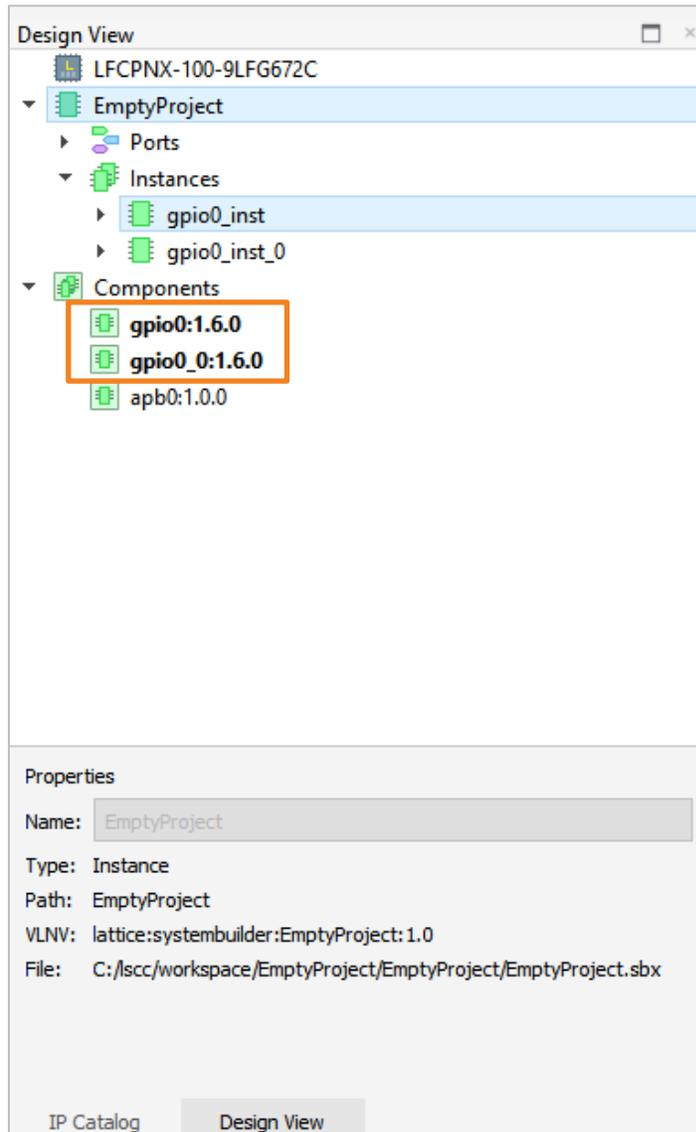

Figure 2.43. Design View
1. In the List view of the Design View (Figure 2.43), go to the Components folder. The deleted module can still be found in the List view in plain text. Those not deleted are shown in bold-faced text.